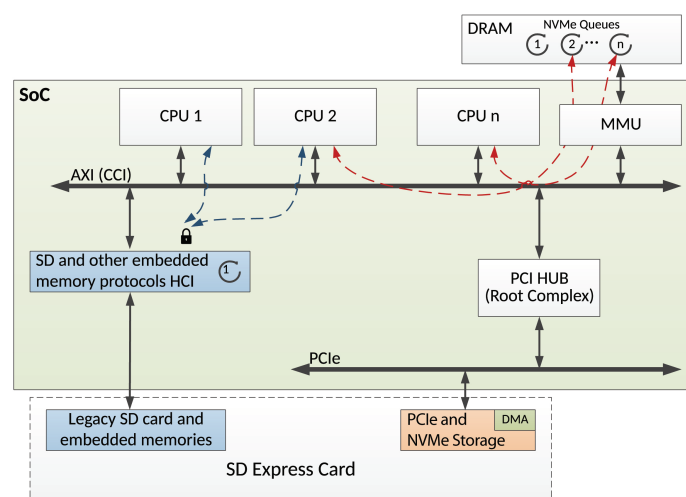

Figure 5 – Host controller synchronization lock vs Multi Queue support of NVMe
- NVMe can have a dedicated command queue in DRAM for every CPU core, see Figure 5.